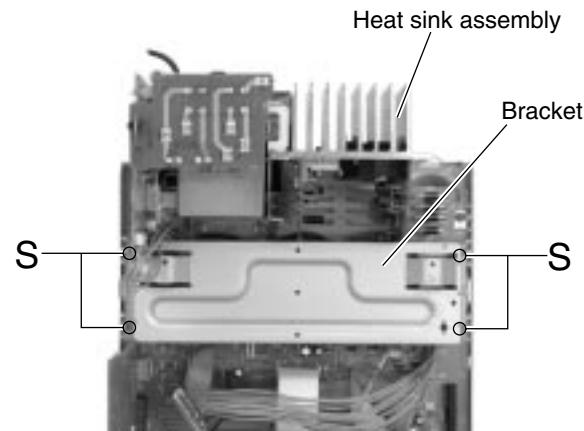

Fig.19
■Removing the heat sink assembly (See Fig.19 and 20)